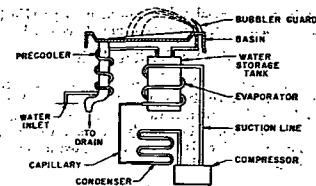

Fig. 8... Pressure-Type Water Cooler
2. **Pressure Type.** A pressure-type water cooler is supplied with potable water under pressure and includes a waste water receptacle or means for disposing of water to a plumbing drainage system (see Fig. 8). Pressure-type water coolers can utilize a faucet or similar means for filling glasses or cups, or may employ a valve to control the flow of water as a projected stream from a bubbler so that water may be consumed without utilizing glasses or cups.